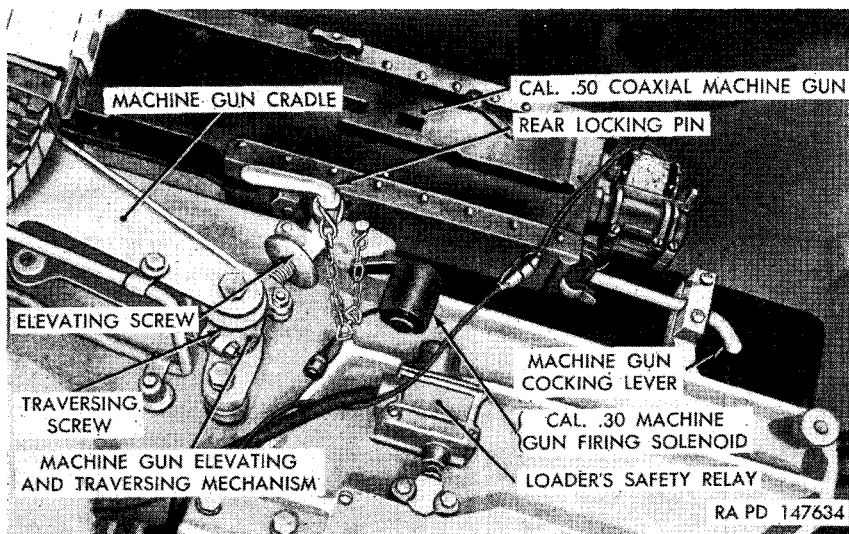

Figure 40. Coaxial machine gun elevating and traversing mechanism.
c. ELEVATING AND TRAVERSING MECHANISM. For every slight adjustment of the coaxial machine gun, an elevating screw and a traversing screw (fig. 40) are provided on the cradle assembly just beneath the rear locking pin.
d. COCKING LEVER. For initially charging the coaxial machine gun and for cocking when some malfunction occurs, a machine gun cocking lever (fig. 40) is provided for the gun. This lever is connected to the bolt stud on the gun and is bracketed to the breech ring of the 90-mm. gun.
e. CRADLE LOCKING PINS. Front and rear locking pins (fig. 40) are provided on the coaxial machine gun cradle to secure the machine gun in operating position.